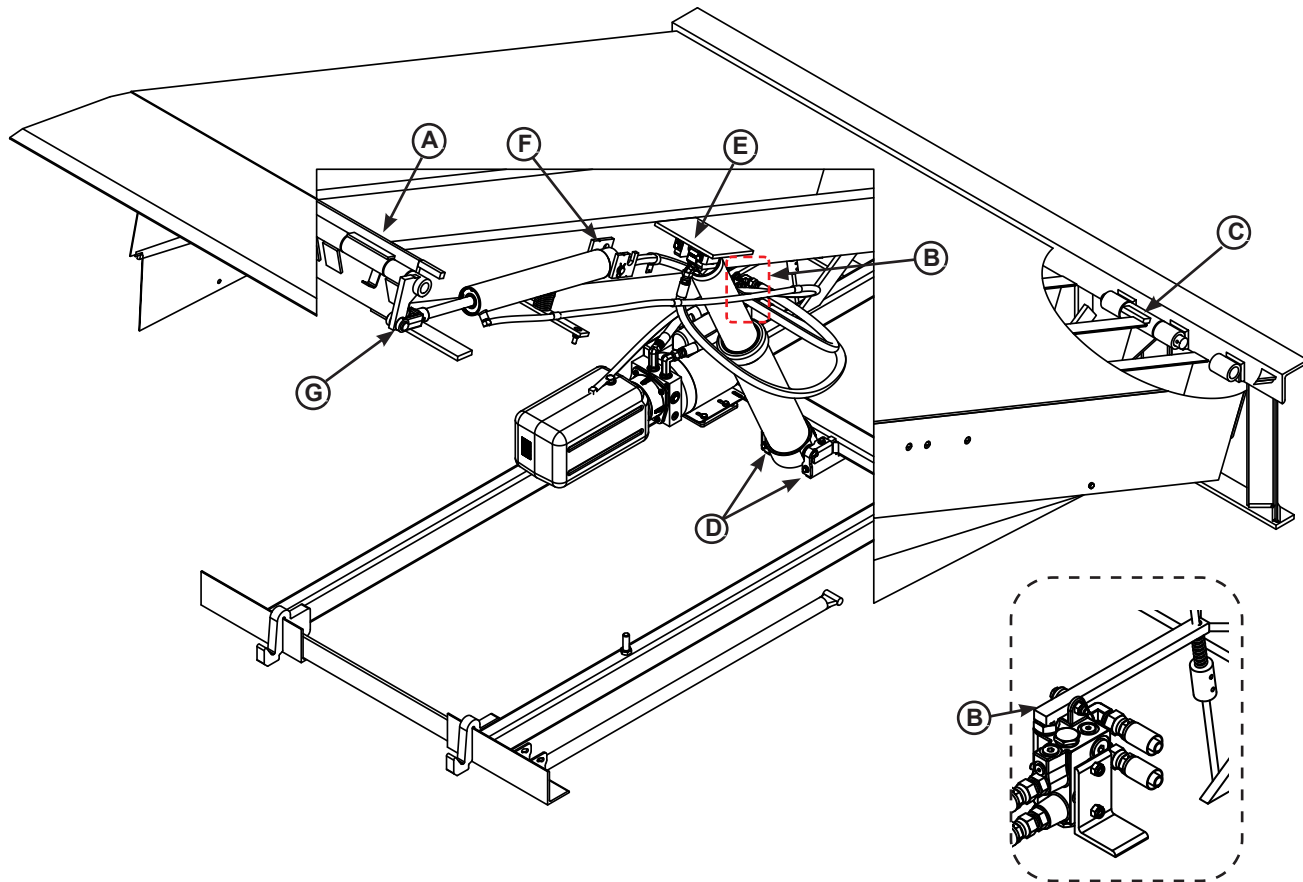

Figure 23
- Lubricate the following areas with light weight machine oil (see Figure 23):
- (A) — Lip hinge area unless equipped with grease fittings (apply oil to the top of the entire length of lip hinge when platform is at the full below-dock position and lip is folded)
- (C) — Platform hinge area (apply oil to top of all platform hinges when platform is at the full below-dock position)
- (E) — Hoist cylinder-to-platform frame pin
- (F) — Lip cylinder-to-platform frame pin
- (G) — Lip lifter and lift cylinder pin
- (B) — Valve lever pivot and top of logic block spool valve.
- (D) — All Hoist cylinder trunnions